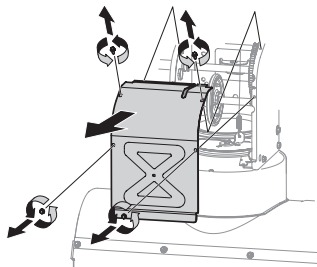
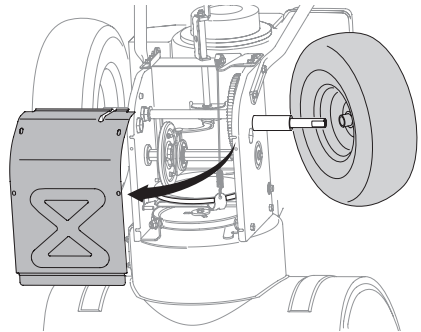

Figure 82
Figure 90
3. Remove frame cover from underside by removing self-tapping screws (Figure 82).
5. Remove frame cover from underside by removing self-tapping screws (Figure 82).
- Remove frame cover from underside by removing four self-tapping screws (Figure 82).
- Using the four self tapping screws, reinstall the frame cover (Figure 82).
- Remove frame cover from underside by removing self-tapping screws (Figure 82). Remove right-hand wheel by removing screw and bell washer which secure it to axle. See (Figure 90).